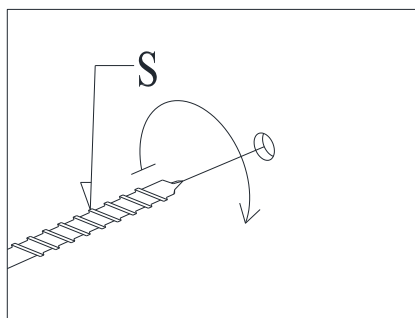

Fig. 10
3. Align the holes of each item with other and insert the connector bolts (M & M') then tighten with a screwdriver (Not Included) as shown in **fig. 10, illustration. 10**.